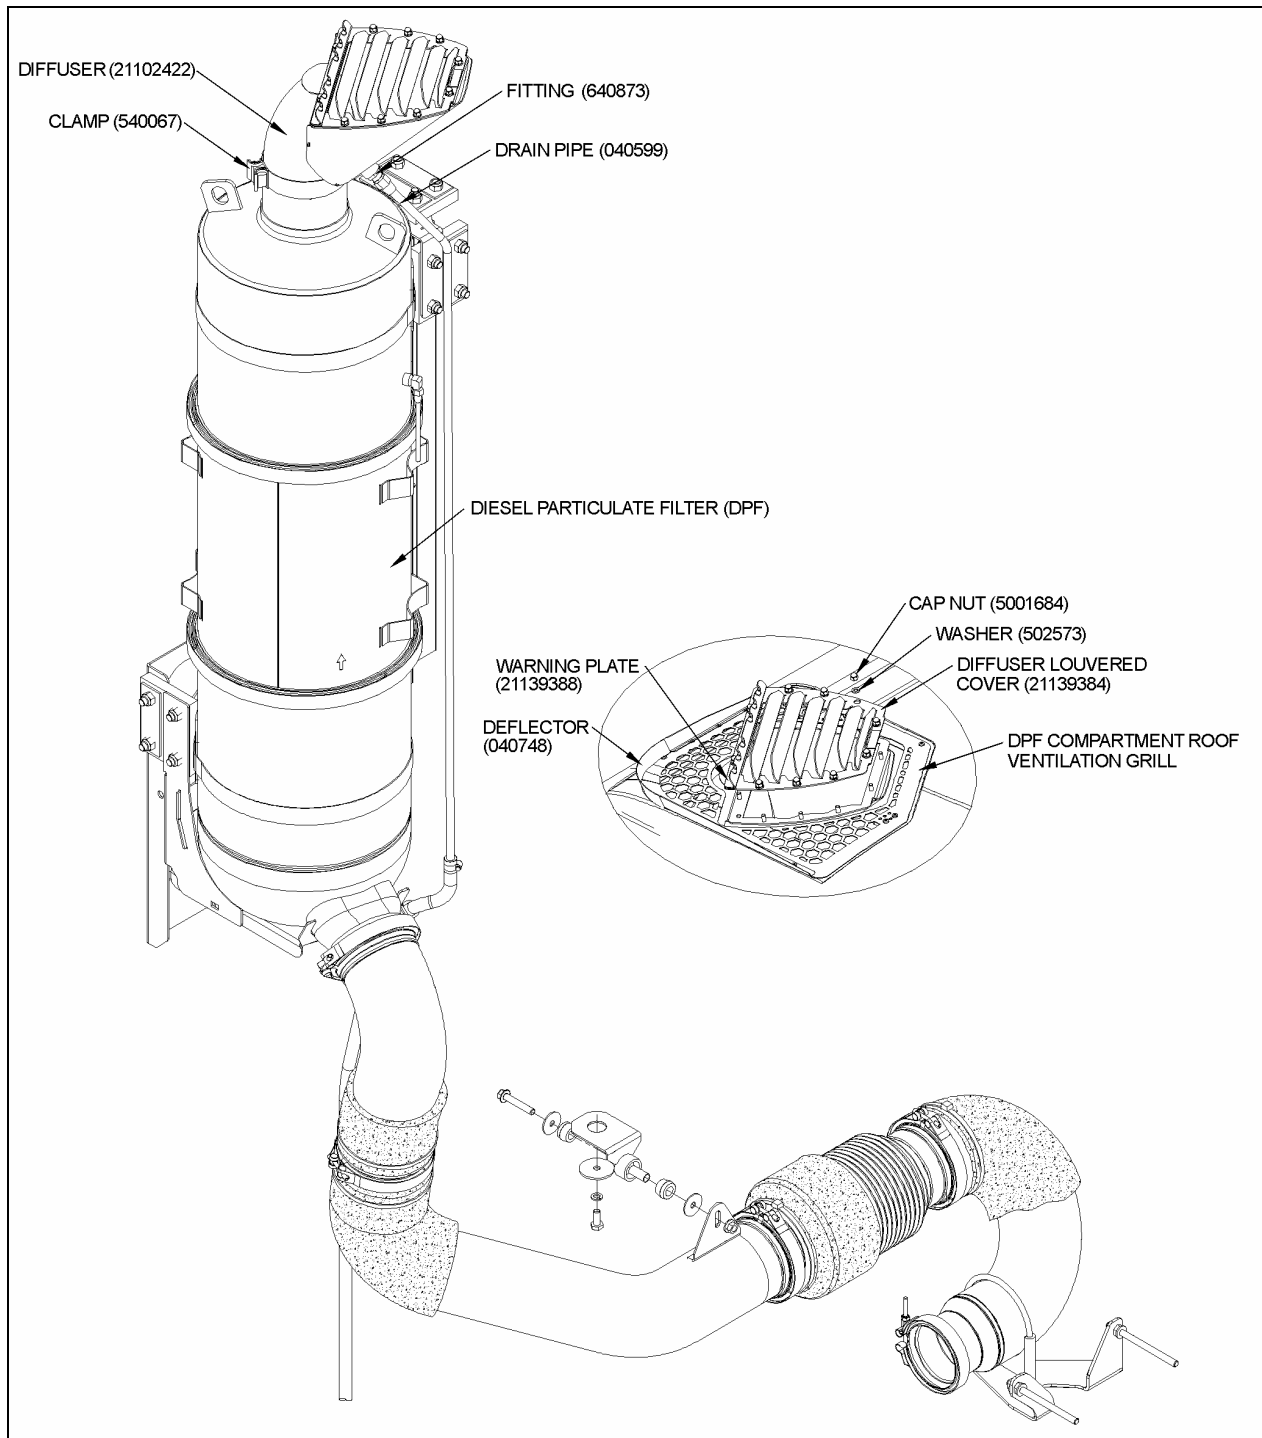

FIGURE 1: EXHAUST SYSTEM INSTALLATION WITH DDEC VI ENGINE
2. Remove DPF compartment roof ventilation grill and put aside (refer to fig. 1 or 2).
3. Remove diffuser holding clamp located above diesel particulate filter (refer to fig. 1 or 2).
4. Unfasten diffuser drain pipe fitting and then remove drain pipe (refer to fig. 1 or 2).
6. Position Diesel Particulate Filter (DPF) compartment roof ventilation grill and then fix new deflector (040748) and roof ventilation grill using screws (refer to fig. 1 or 2).
7. Secure diffuser using SS holding clamp (540067) (refer to fig. 1 or 2).
8. Replace copper drain pipe with SS pipe (040599) and secure to diffuser using new pipe fitting (640873) (refer to fig. 1 or 2).
9. Fix diffuser louvered cover (21139384) as well as warning plate (21139388) onto diffuser using flat washers (502573) and cap nuts (5001684) (refer to fig. 1 or 2).
3. Unfasten diffuser drain pipe fitting (refer to fig. 1 or 2).
5. Fix diffuser louvered cover (21139384) as well as warning plate onto diffuser using flat washers (502573) and cap nuts (5001684) (refer to fig. 1 or 2).
6. Fix new deflector (040748) onto Diesel Particulate Filter (DPF) compartment roof ventilation grill using roof ventilation grill fixing screws (refer to fig. 1 or 2).
2. Fix diffuser louvered cover (21139384) as well as warning plate onto diffuser using flat washers (502573) and cap nuts (5001684) (refer to fig. 1 or 2).
3. Fix new deflector (040748) onto Diesel Particulate Filter (DPF) compartment roof ventilation grill using roof ventilation grill fixing screws (refer to fig. 1 or 2).